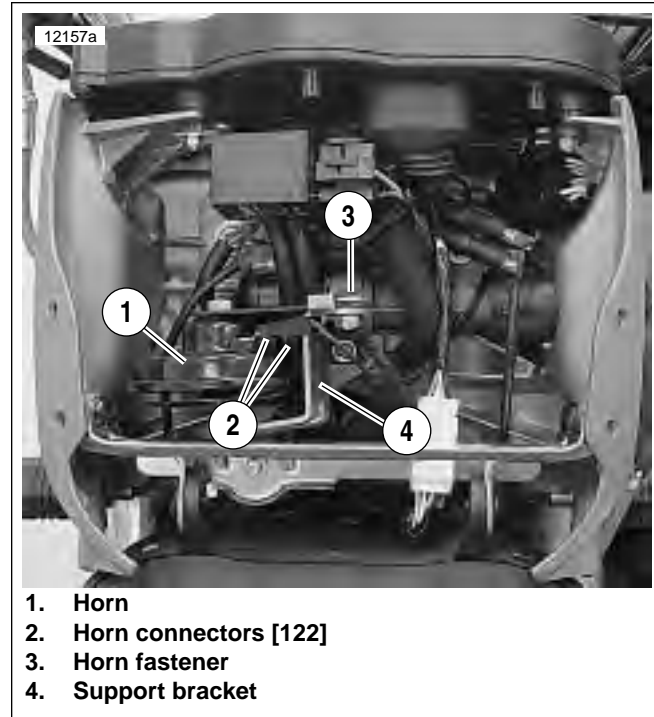
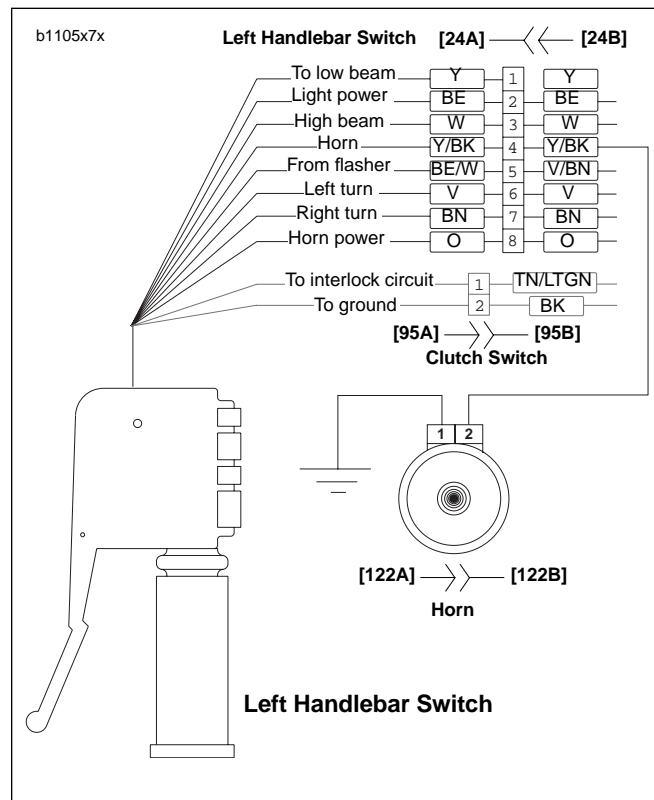

Figure 7-79. Horn Assembly
Figure 7-80. Horn Wiring
3. See Figure 7-79. Remove fastener (3).
4. Remove horn (1) from fairing support bracket (4).
5. See Figure 7-80. Detach Y/BK power wire and BK ground wire from terminal clips on horn.
1. See Figure 7-80. Connect Y/BK power wire and BK ground wire to terminal clips on horn.
2. See Figure 7-79. Attach horn (1) to fairing support bracket (4) using fastener (3). Tighten to 72-96 in-lbs (8.1-10.8 Nm).
- a. See Figure 7-80. Remove Y/BK power and BK ground wires from terminal clips.